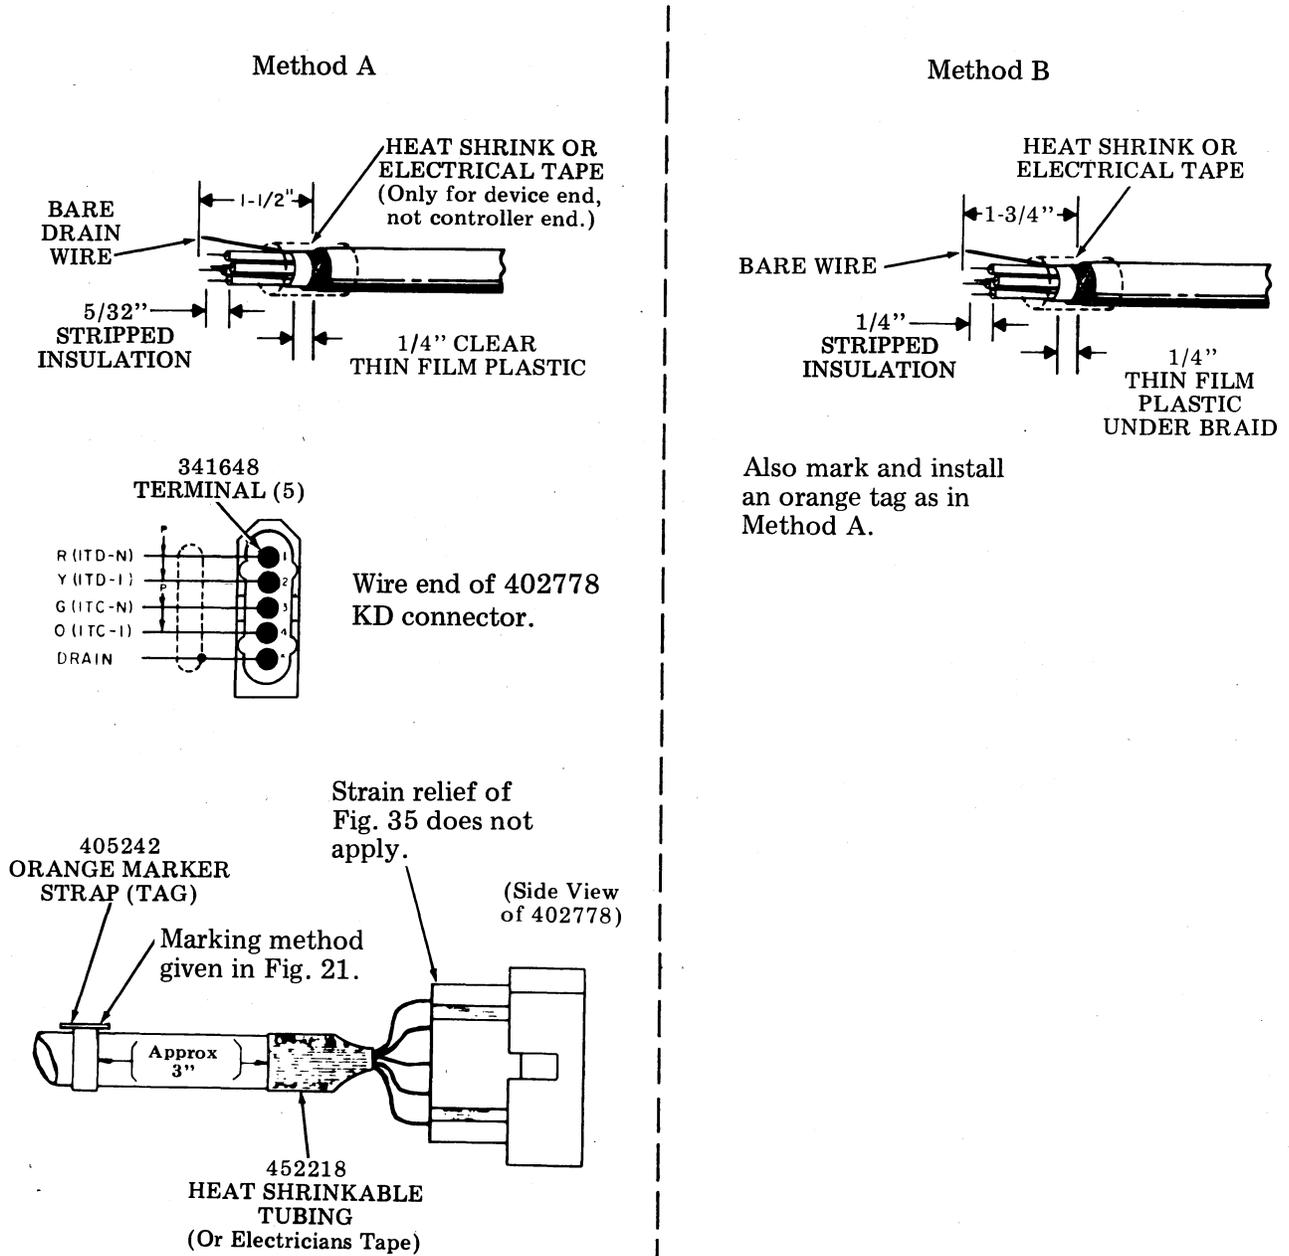

Fig. 98
- (a) Assembled type cable only: Mark tag at the KD end of cable. If terminals were removed from connector to facilitate cable pulling, insert terminals in connector (see Fig. 98).
"Method A" for early design 452015 is described in 3.16 and 3.17 and Fig. 98.
"Method B" for late design 452015 is described in Fig. 98.
Prepare cable end as shown in Fig. 98, which shows Teletype Corporation cable. The caution of 3.22 applies. Mark the 405242 cable tag (orange). Attach the tag 3 inches from the tubing (or tape).